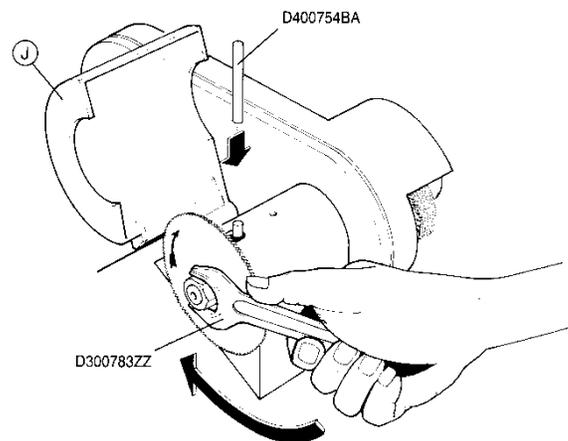

Fig. 8
Raise the cutter shield (J) and slide the locking bar (code D400754BA) into the groove in the base and in the hole in the cutter shaft, as shown in Fig. 8.